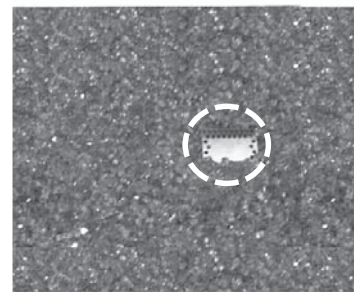

Fig. 17-2
1. Pour the glass/gems out of the bag(s), evenly covering the lava but not the screen (Fig. 17-2).